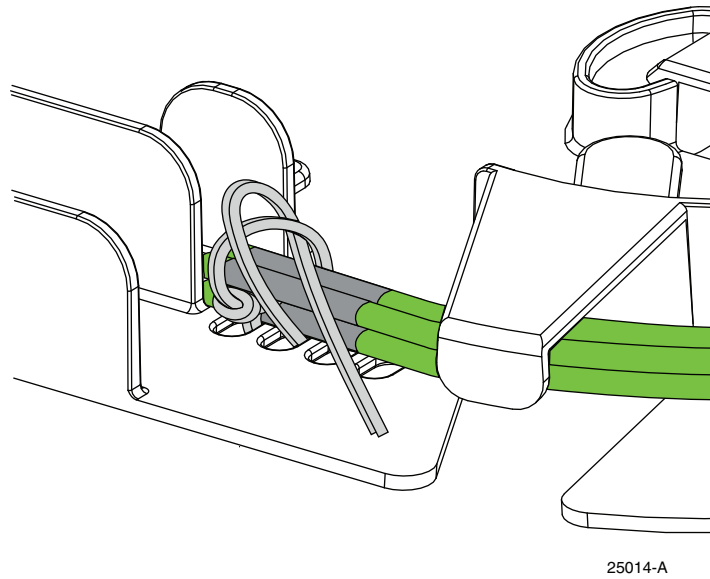

Figure 21. Forming a Half Hitch Knot
9. Proceed to place the second lacing stack layer onto the fiber breakout point (corresponding to Table 2 on Page 15). Route the double strand back down through the second rear hole in the fiber breakout point, up through the second front hole, and through the loop to form a half hitch knot, as shown in Figure 21.